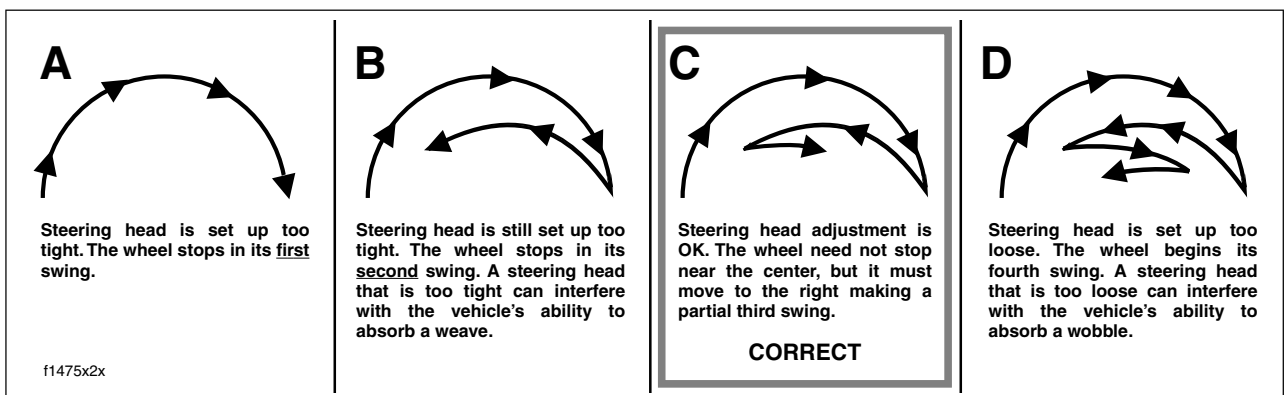

Figure 2-87. Check Steering Head Bearing Swing-By
3. Turn the front wheel until contact is made with the left fork stop and then let go. The wheel should swing right, left, then right and stop. The wheel need not stop near the center or straight-forward position, but it must move to the right making a partial third swing. See frame C of Figure 2-87.